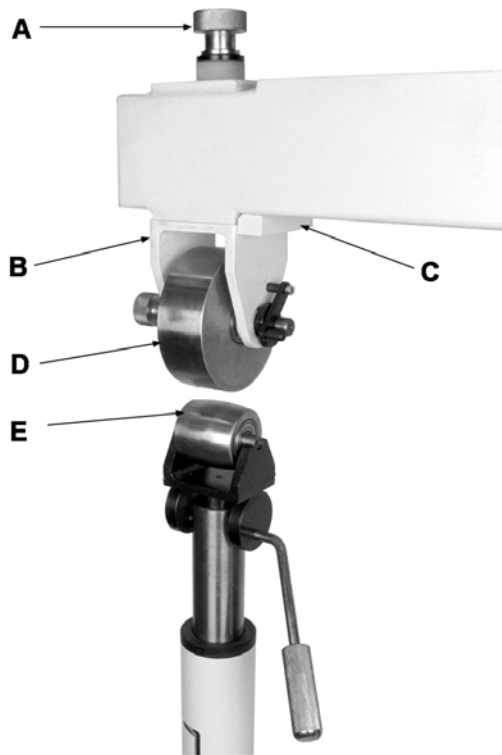

Figure 2
Refer to Figure 2:
3. Engage the *quick release lever* (F, Fig. 2) and raise the lower wheel to the operating position.